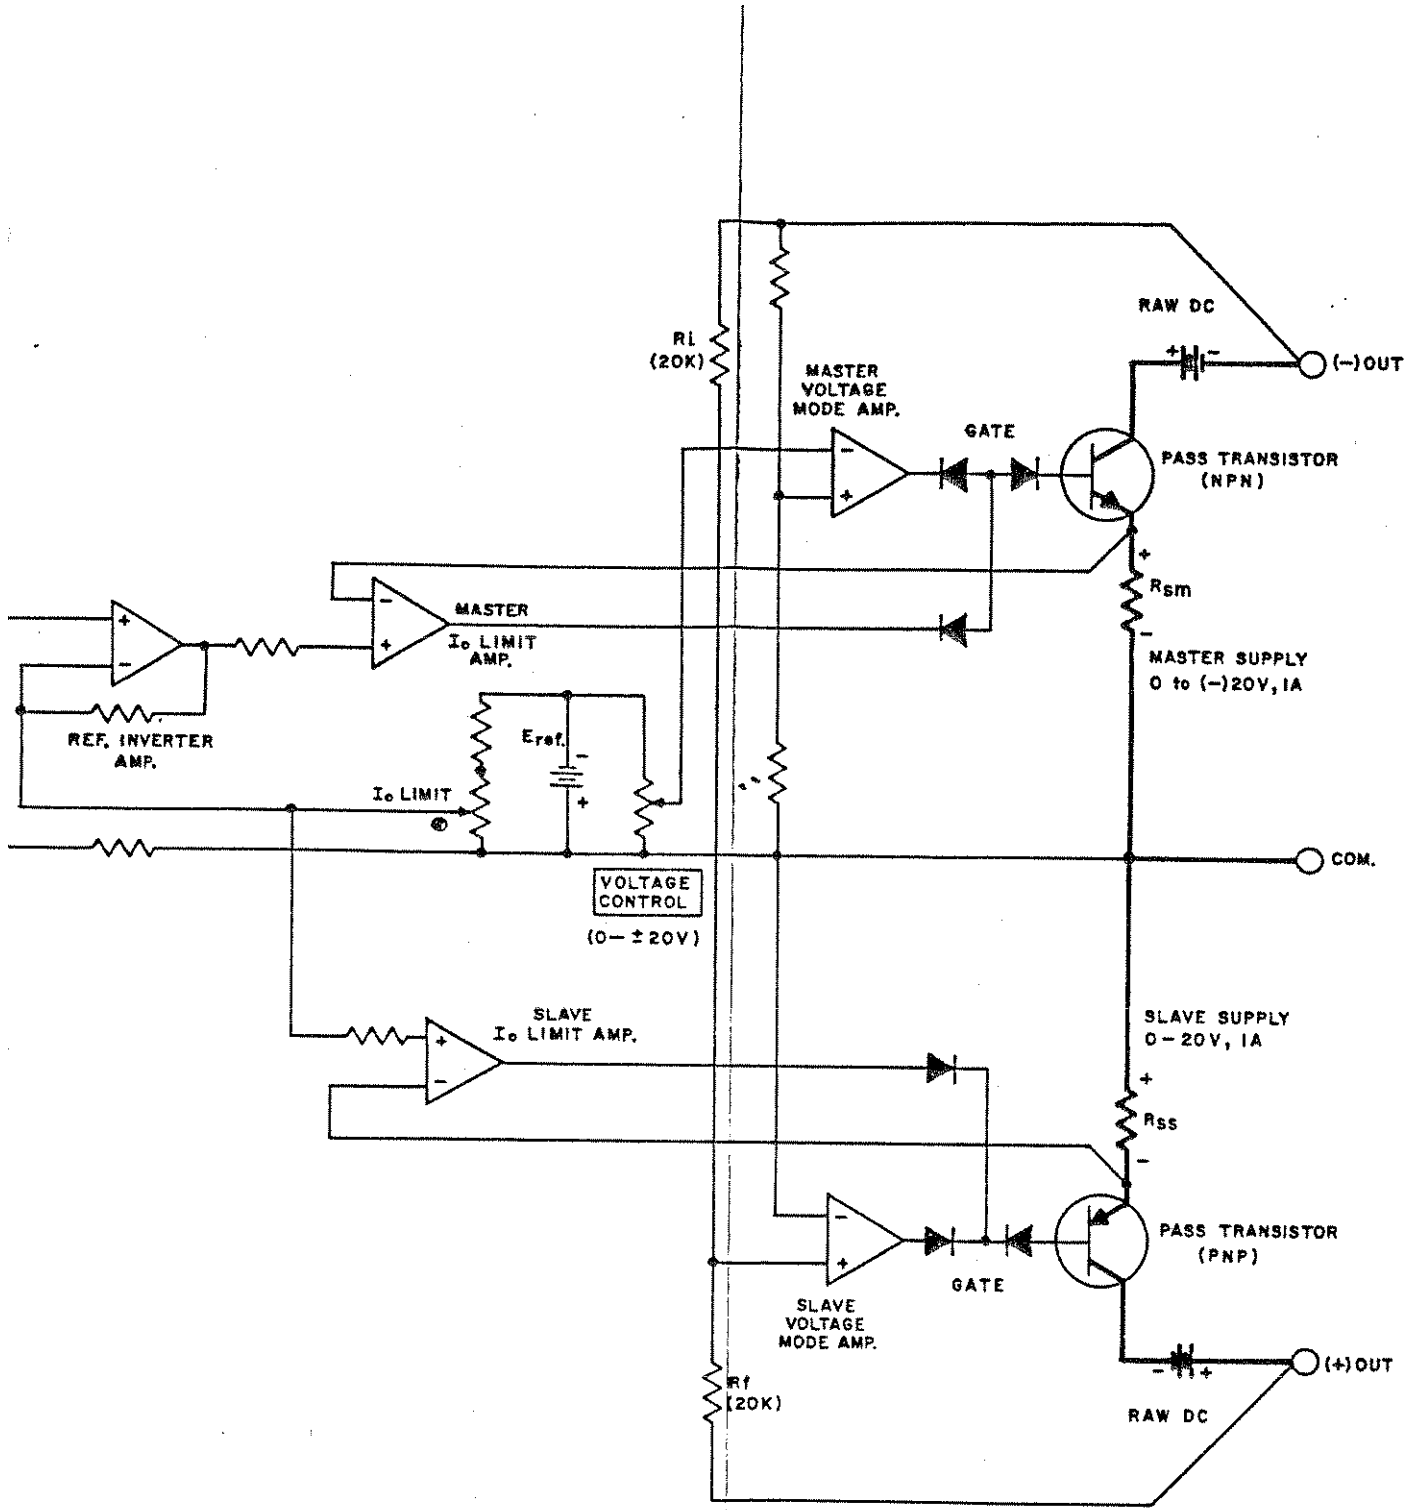

FIG. 4-3 SIMPLIFIED SCHEMATIC DIAGRAM, ±20V, 1A SUPPLY
- 4-6 ( $\pm 20V$ , 1A SUPPLY, SEE FIG. 4-3). This is a ( $\pm$ ) 20V, 1A stabilized dual tracking power supply in a master/slave configuration, with variable current limit. As seen from FIG. 4-3, the RAW D-C sources of the MASTER and the SLAVE sections are connected in series with their respective NPN and PNP PASS TRANSISTORS, their sensing resistors ( $R_{sm}$  and  $R_{ss}$ ) and the external load across the output terminals. The PASS TRANSISTORS change their collector/emitter potentials in response to either their associated VOLTAGE MODE AMPLIFIERS or their  $I_O$  LIMIT AMPLIFIERS.